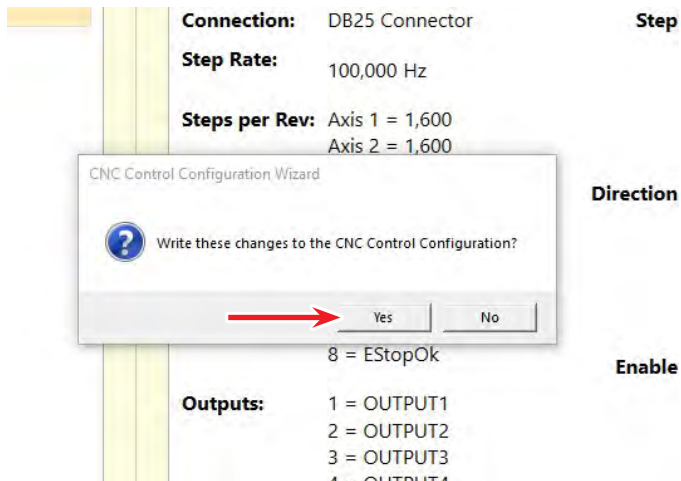

FIGURE 17
21. Click on “Yes” to write these changes to the CNC control configuration (see Figure 17).